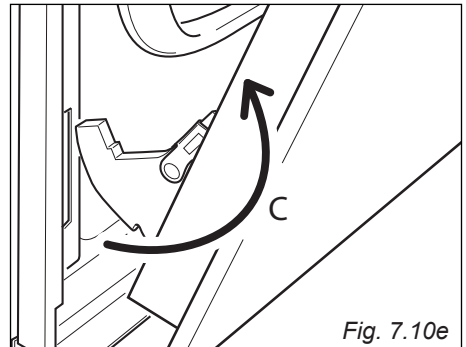

Fig. 7.10e
- Withdraw the hinge hooks from their location following arrow "C" (fig. 7.10e).